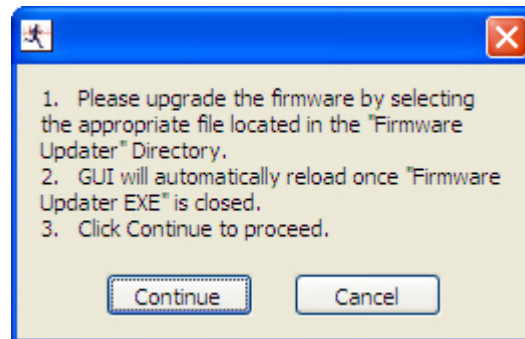

Figure 32. PC Application Firmware Upgrade – 1
- A pop-up window opens as shown in Figure 32. Follow the instructions to continue to Firmware Upgrade or to cancel the operation.